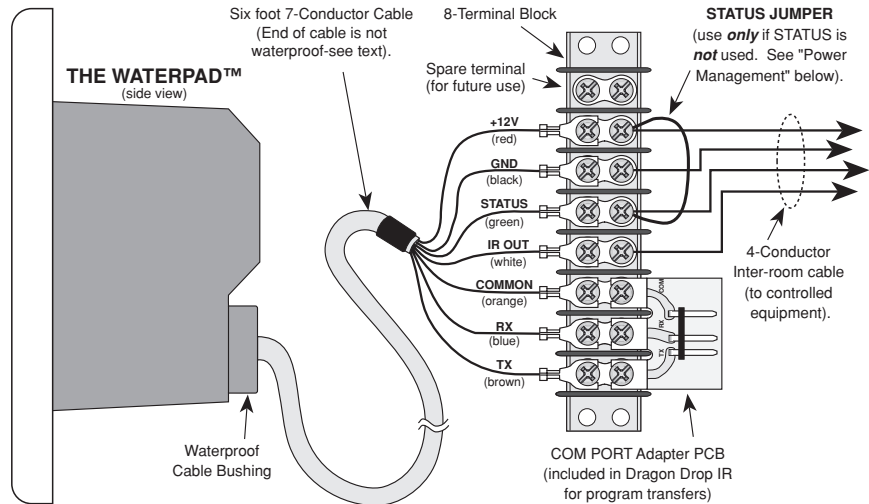

Fig. 5 Cable Terminations
Fig. 5 illustrates the terminal block, COM PORT adapter & the lead termination legend for the Waterpad. The 8-terminal block is included with each Waterpad. The COM PORT adapter is included with each DD4 Dragon Drop-IR software package.
- This assumes that +12V and 0V, representing a system **ON** and **OFF** condition, is applied to the STATUS terminal (see **Fig. 5**)
NOTE: If power management is **not** used (i.e. 3-wire hookups), a short jumper **must** be connected between the **STATUS** and **+12V** terminals (see **Fig. 5**).